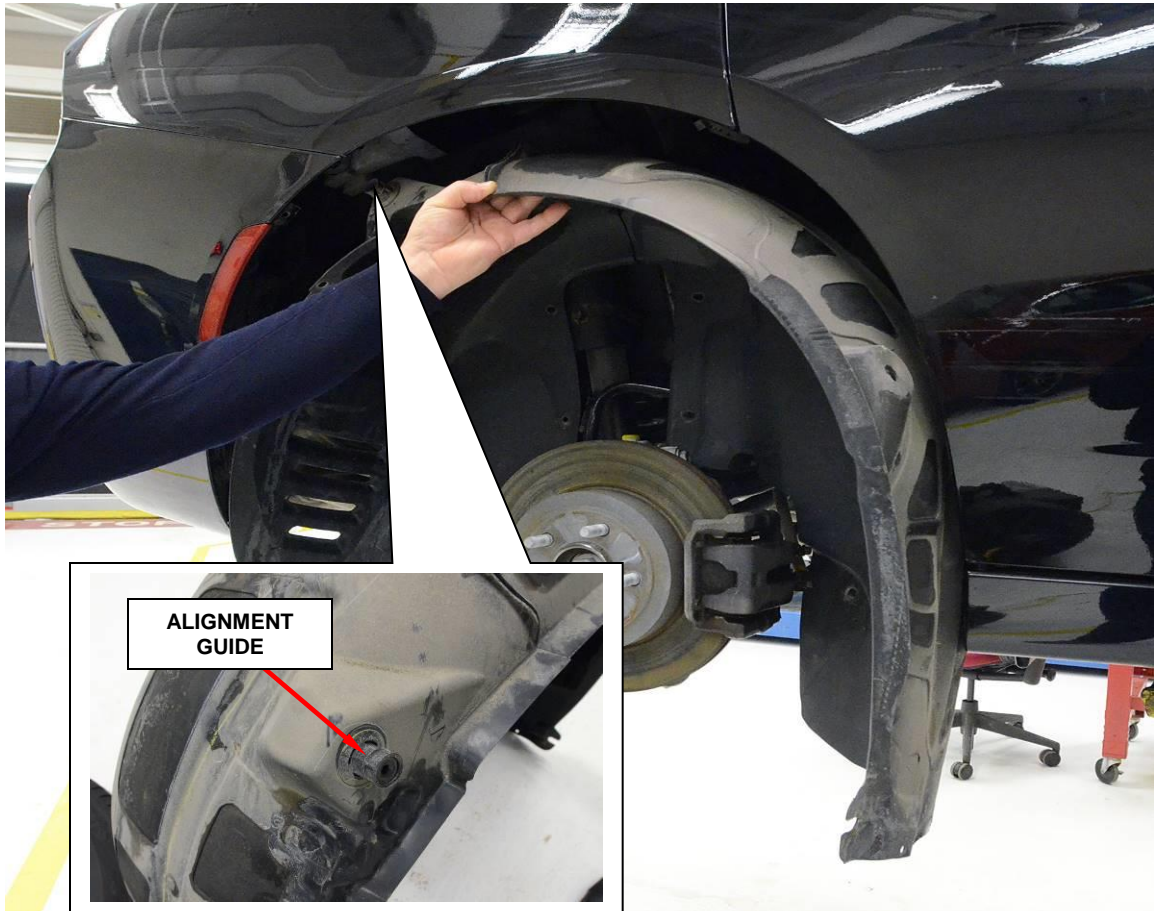

Figure 3 – Wheelhouse Shield
6. Remove the right rear wheelhouse shield from the vehicle (Figure 3).
11. Position the rear wheelhouse shield into the rear wheel well (Figure 3).